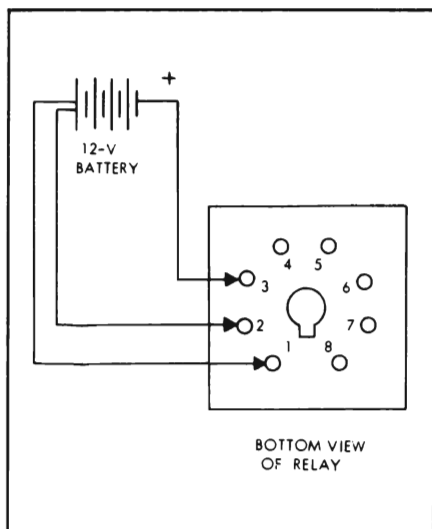

Figure 11-190—Relay Non-Pull-In Check
(1) Connect pins 1 and 2 to the negative terminal of a 12 volt battery. See Figure 11-190.
(2) Connect pin 3 to the positive terminal of the battery.